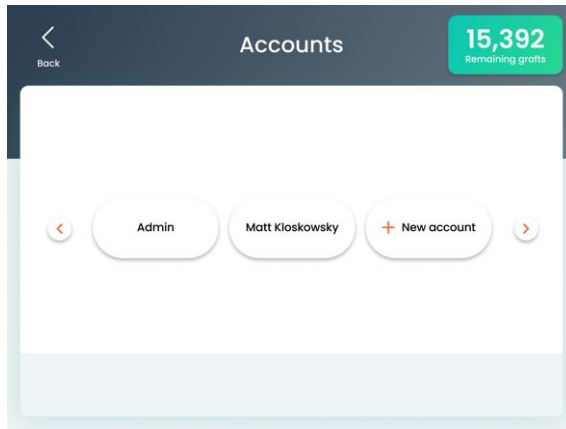

Figure 6-1. Accounts Screen
3. From the Settings screen, press the **Accounts** icon, as shown in Table 6-1; the Accounts screen appears, as shown in Figure 6-1.
10. Verify that the newly-added user appears in the Accounts screen, as shown Figure 6-1.
6. Verify that the renamed user appears properly in the Accounts screen, as shown in Figure 6-1.
5. Verify that the deleted user does not appear in the Accounts screen, as shown in Figure 6-1.